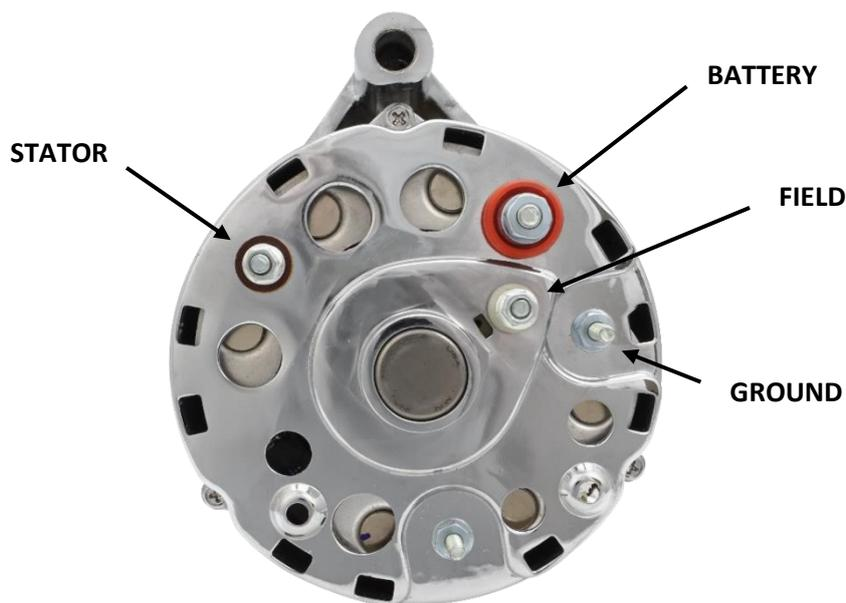

Figure 1: Wiring diagram
3. Connect wires as per figure 1.